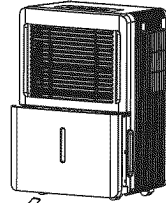

Figure 5
- Slowly pull out the bucket. Grip the left and right handles securely, and carefully pull out straight so water does not spill. Refer to Figures 5 & 6. Do not put the bucket on the floor because the bottom of the bucket is uneven, causing it to fall over and spill the water.